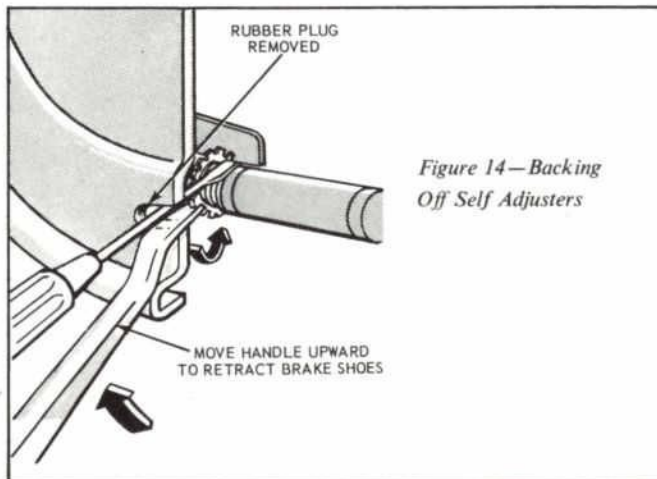

Figure 14—Backing Off Self Adjusters
1. Remove the wheel from the drum, then remove the drum from the brake with a gentle rocking motion. If the drum will not come off, knock the rubber plug out of the brake carrier plate with a punch. Insert a narrow screwdriver through the slot and disengage the adjusting lever away from the screw, back off the adjusting screw with a brake adjusting tool (Fig. 14). *Be extremely careful not to burr, chip or damage the notches in the adjusting screw; otherwise the self-adjusting mechanism may not function properly.*